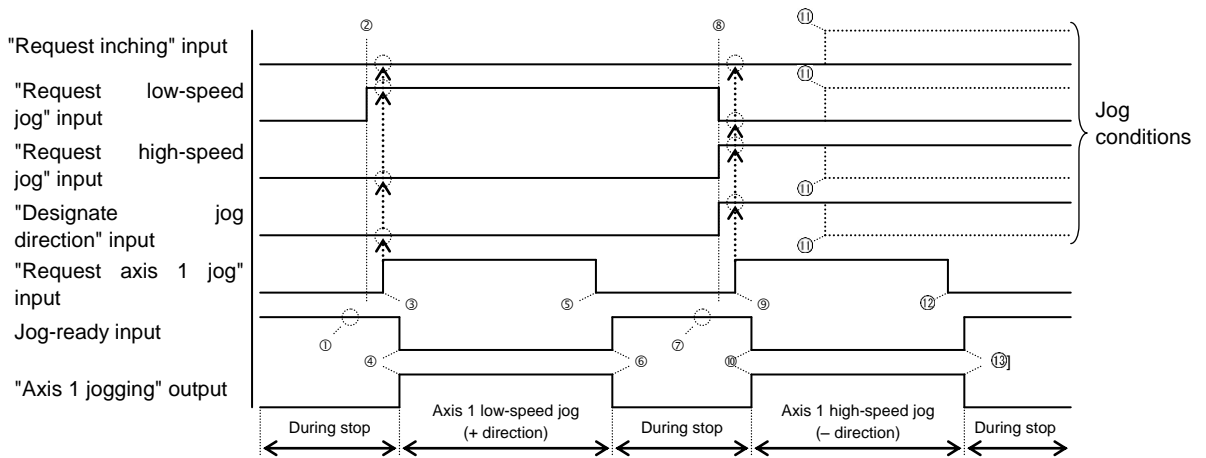

Fig. 11.2.4-1 Example of First axis moving
- When the jog conditions (inching request, low-speed jog request, high-speed jog request) and jog direction are specified, and the jog request is ON, the corresponding axis performs the jog operation. (Refer to Fig. 11.2.4-1.)